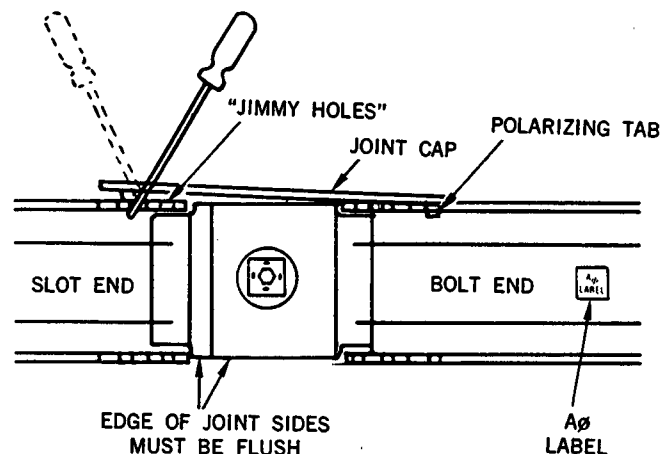

FIGURE 11
9. To assist in telescoping the lengths together, one (or both) of the joint caps may be placed loosely in position on one length of busway with the polarizing tab inserted into the polarizing slot on the housing cap, see Figure 11.